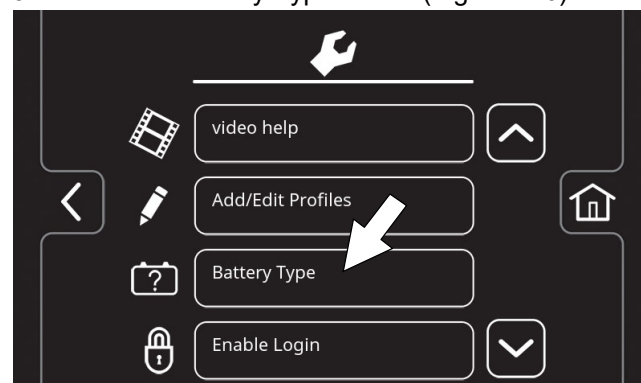

FIG. 116
- Press the Battery Type button (Figure 116).